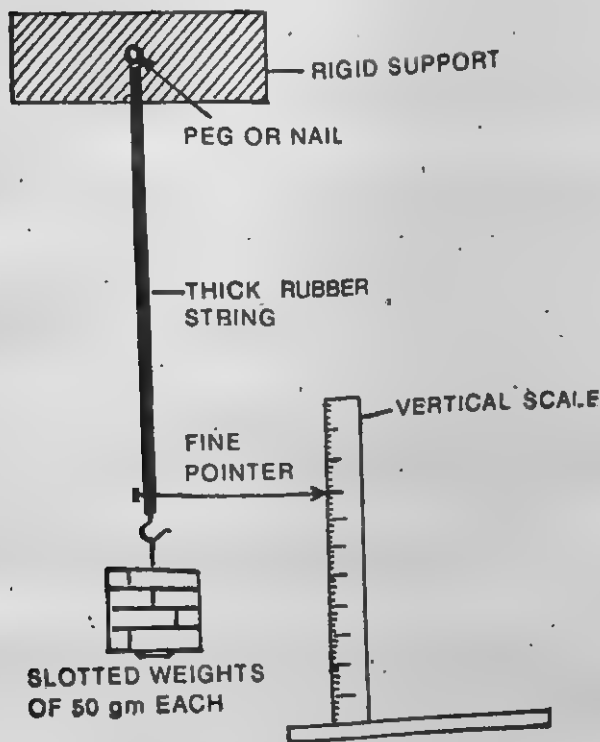

Fig. 34.1. Improvised apparatus for stress-strain relationship for rubber string
1. Set up the apparatus as shown in Fig. 34.1 i.e., suspend a sufficiently thick rubber string from a peg fixed in a rigid support on the wall of the Physics Laboratory. Also suspend the hanger of the slotted weights to the other end of the rubber string. Attach a fine pointer near the lower end of the rubber string which moves over a vertical scale. See that the tip of the pointer is on the scale.